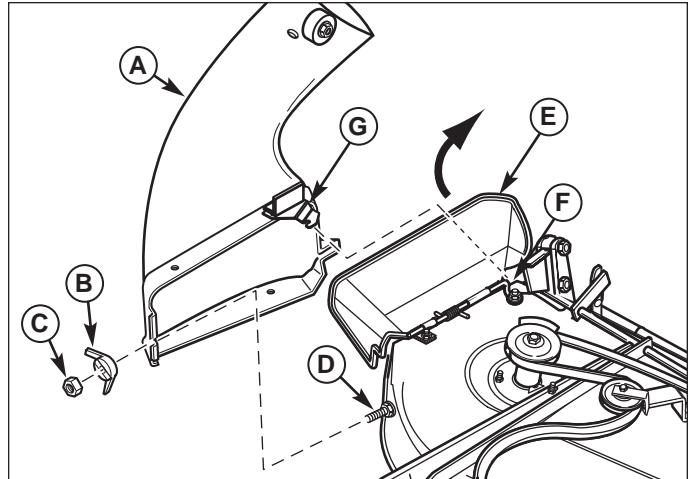

Figure 12. Install Lower Discharge Chute A
1. Lift discharge deflector up (E, Figure 12).
2. Slide the notch of bracket (G) on to deflector hinge rod (F).
3. Secure the front of lower chute (A) to carriage bolt (D) using wing nut (B).